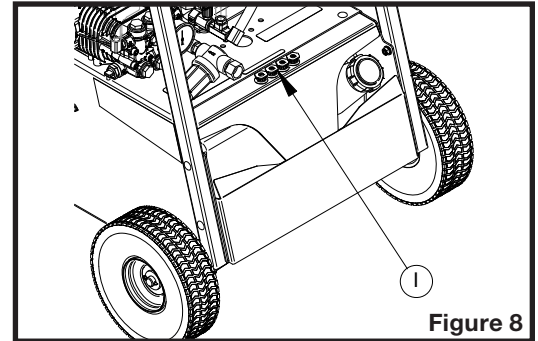
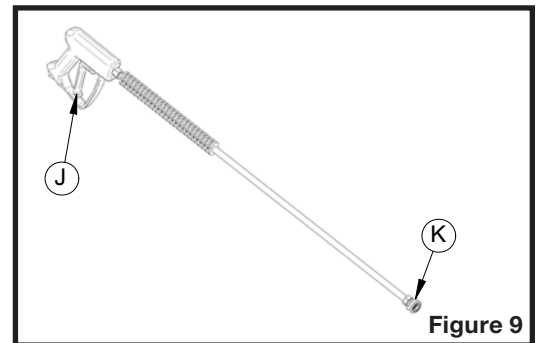

Figure 8
Figure 9
2. Depress the gun trigger (J on figure 9) until water flows out limp and regularly. Release the gun trigger.
3. Install a high pressure nozzle (I on figure 8) at the wand outlet (K on figure 9):
5. Depress the gun trigger (J on figure 9) to start the pump motor.